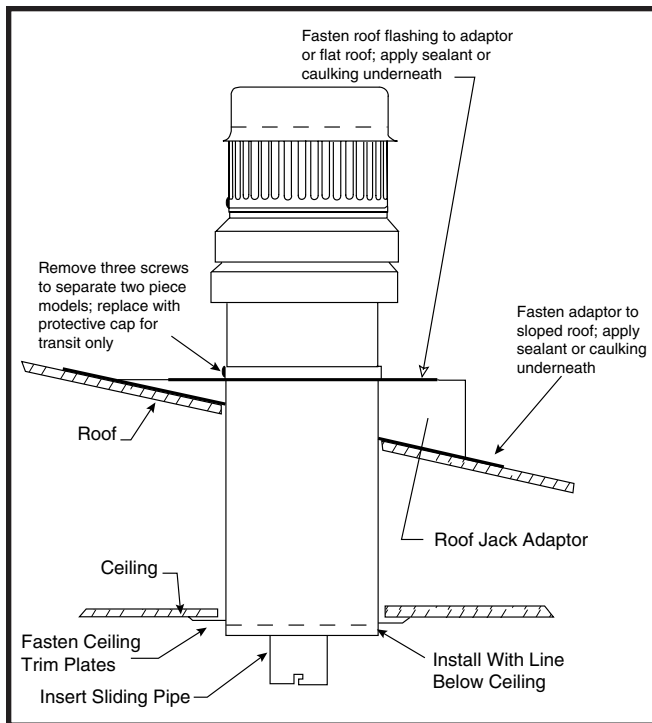

Figure 10. Roof Jack
6. Twist the vent pipe to lock the two pipes together and tighten the screw. All joints and connections should be inspected before start up of the furnace. See Figures 10 & 11 \(page 14\).